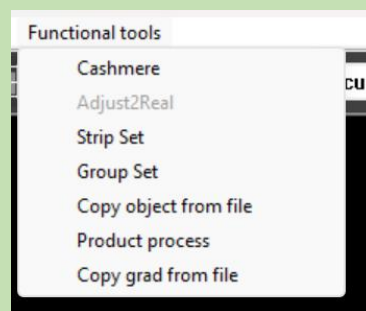

Figure 2-10
10.Function tools: Down filling, check stripe alignment, automatic grouping (Figure 2-10).